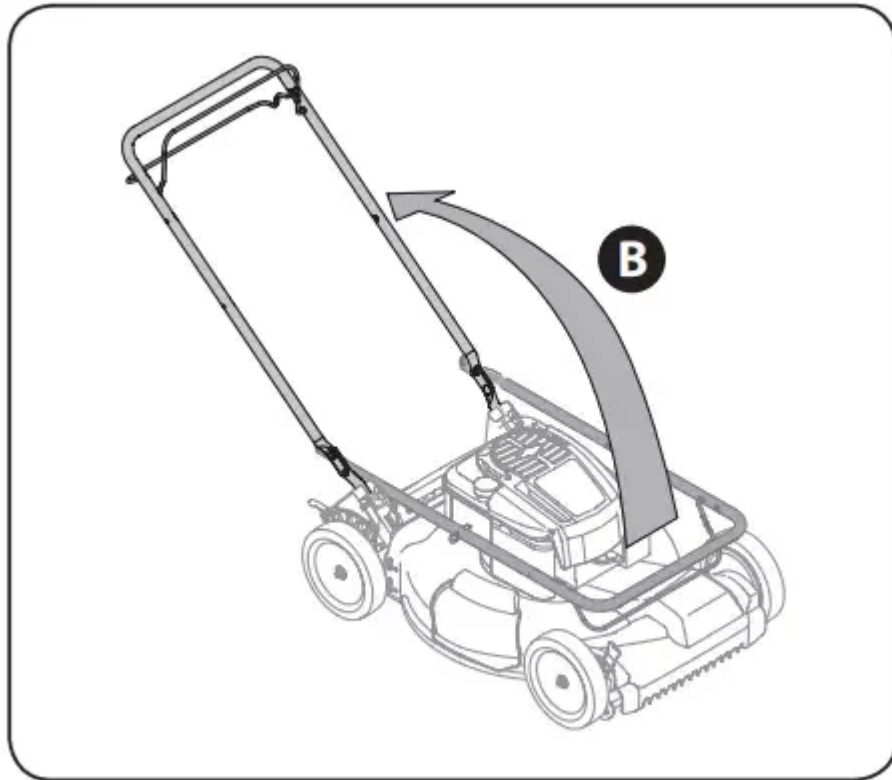

Figure 3-2
2. While stabilizing mower so it doesn't move, pivot upper handle up as shown in Fig. 3-2. Do not crimp cable while lifting the handle up.